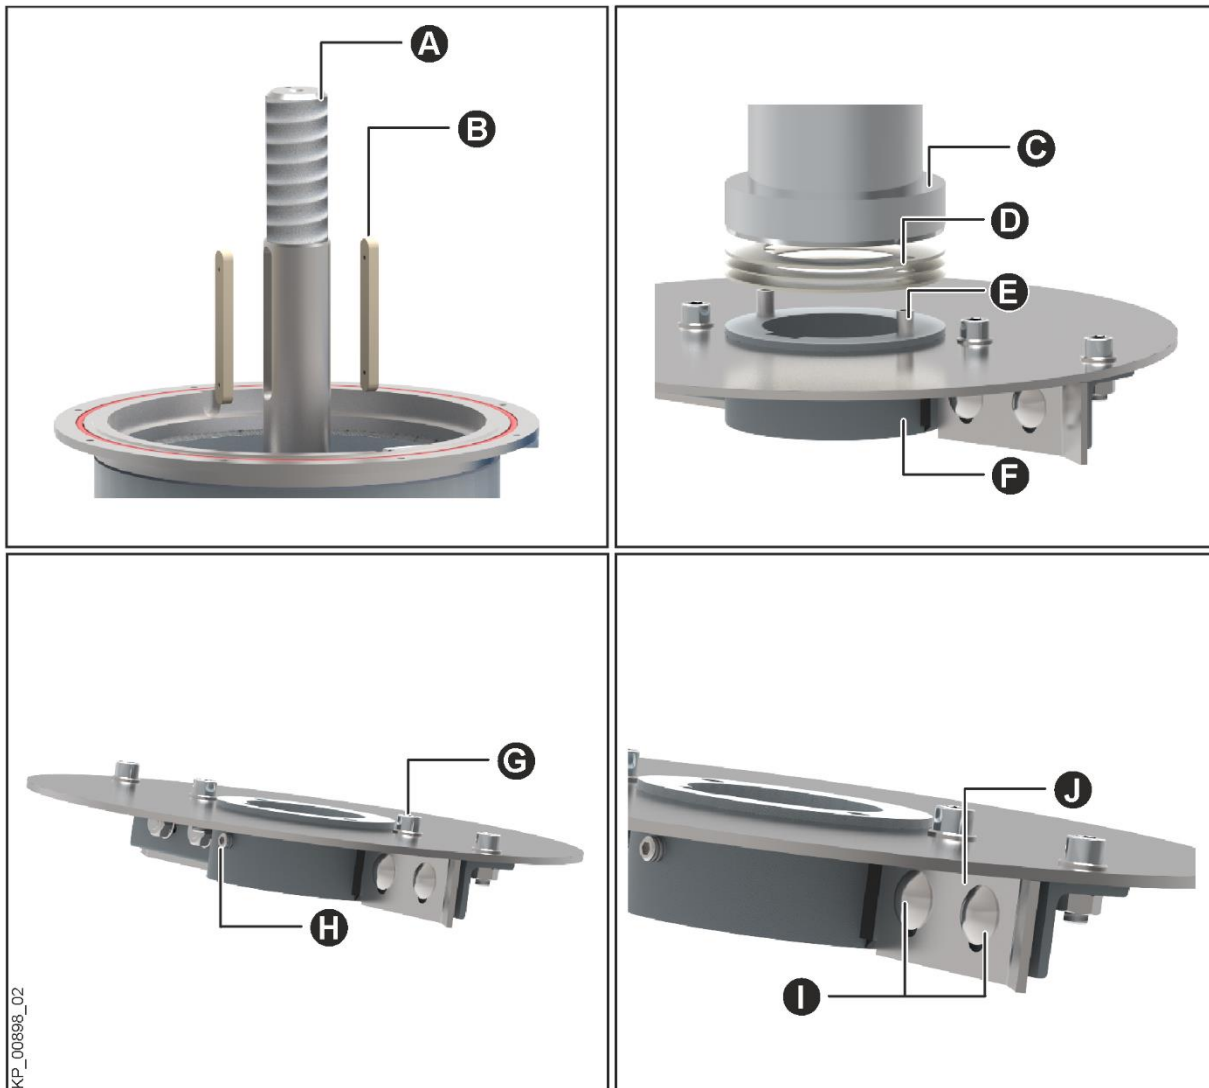

Fig. 61: Overview of the discharge device
- Remove the feather keys (Fig. 61/B) from the main shaft (Fig. 61/A).
- If available: Pull the spring assembly or the pan grinder head stop (Fig. 61/C) and spacer rings (Fig. 61/D) off the discharge device (Fig. 61/F).
- Remove the headless screw (Fig. 61/H) from the discharge device.
- Remove the cheese head screws (Fig. 61/G) from the discharge device.
- Place the discharge device (Fig. 61/F) on the main shaft using an appropriate lifting gear.
- Screw the headless screw (Fig. 61/H) in the discharge device again.
- Screw the cheese head screws (Fig. 61/G) in the discharge device again.
The discharging plates (Fig. 61/J) must have a distance of 1 to 3 mm to the bottom plate.
- Loosen the screws of the discharging plate (Fig. 61/I).
- Adjust the distance and tighten the screws of the discharging plate (Fig. 61/J) again.
- Insert the spacer rings (Fig. 61/D) and spring assembly or pan grinder head stop (Fig. 61/C) back into the dowel pins of the discharge device (Fig. 61/D).
- Fasten the feather keys (Fig. 61/B) to the main shaft (Fig. 61/A).